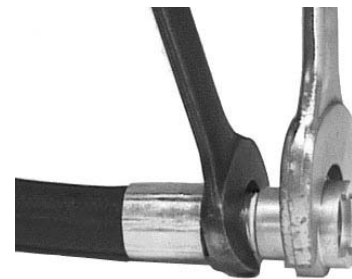

Figure 9-8. Secure Whip Hose to Q.D. Socket.
4. Use a 2-inch open-end wrench to hold the Quick Disconnect Socket (19) in place. Start the Whip Hose fitting into the socket. See Figure 9-8.
5. Use a 1-3/8-inch open-end wrench to tighten the fitting of Whip Hose (18) into the Quick Disconnect Socket (19). See Figure 9-8.